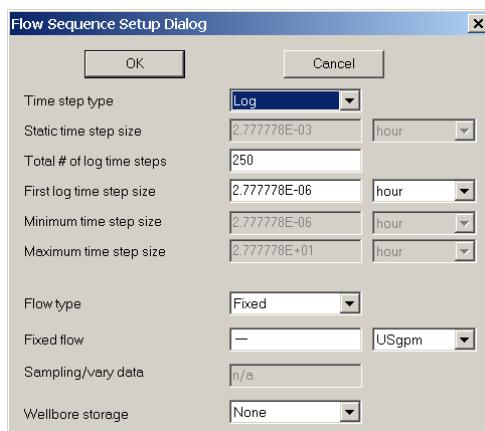

Figure 11.7 Flow Sequence Setup Dialog
- (1) In the **Sequences** input window under the **Sequences** tab, keep the default sequence type and designation. Click in the **Duration** cell, and type **100**. The sequence duration is therefore 100 hours.
- (2) Double click on the **Sequence Data** cell (currently says “BAD”). A dialog will appear in a separate window, as shown in Figure 11.7: